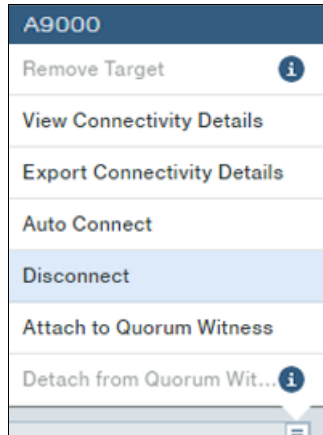

Figure 8-49 Disconnection migration target
2. Select **Disconnect** from the **Actions** menu, as shown in Figure 8-49.